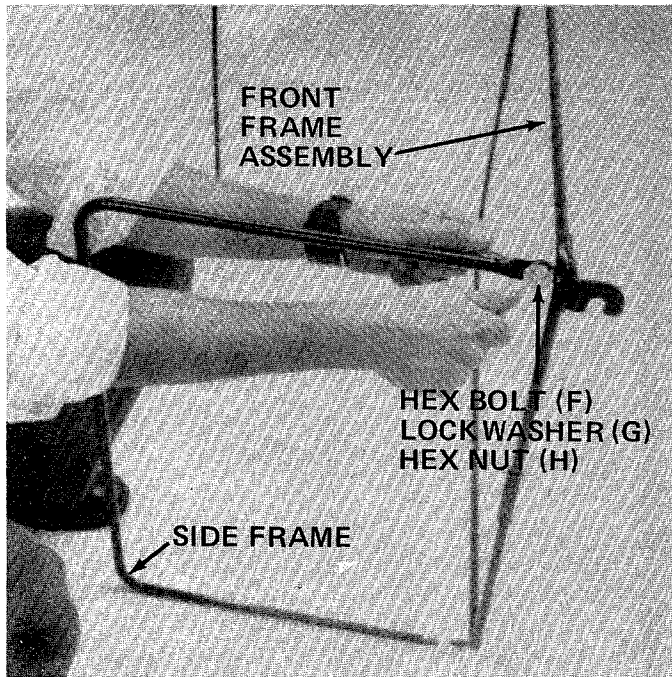

FIGURE 4
- Place the side frames in position over welded washers on front frame assembly. Secure in place with four hex bolts (F), lock washers (G) and hex nuts (H). See figure 4. Two 7/16" wrenches are required.